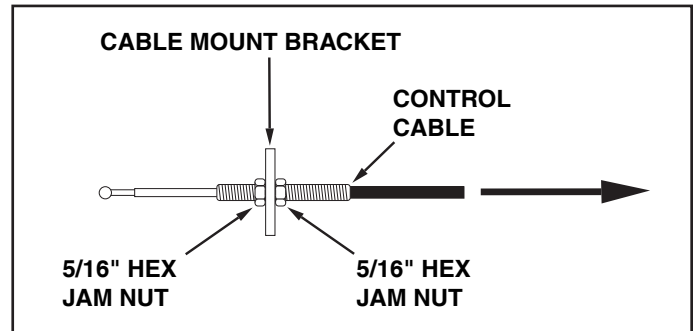

FIGURE 25
- If the blade will not unlock and pivot, the angle lock bars are not disengaging from the slots in the pivot plate. To correct, adjust the 5/16" hex jam nuts to draw the end of the control cable back towards the cable mount bracket. The less the threaded end of the cable extends through the bracket, the more the angle lock bars can retract to disengage from the slots in the pivot plate. See figure 25.